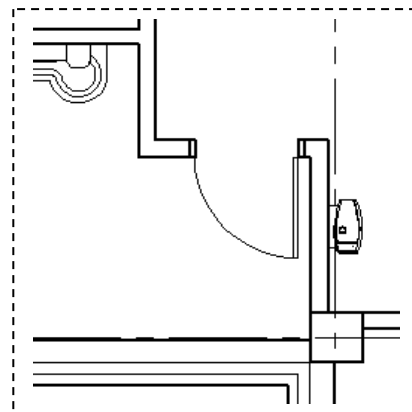

Figure 4-1.11 Drinking fountain centered on wall
18. Add a **drinking fountain** just to the east of the Men's toilet room, and centered on the wall, as shown in Figure 4-1.11.